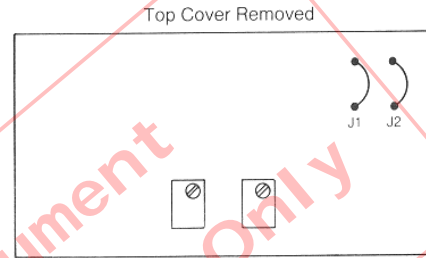

Figure 2
- The unit can be operated at a lower frequency adjustment range (80 to 2500 Hz instead of 325 to 10,000 Hz) by reconnecting jumper J2 and cutting out jumper J1 (see Figure 2).